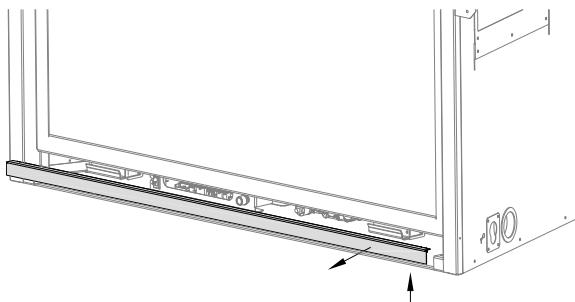

Figure 9.2 - Bottom Frame Removal
2. Pull the bottom frame piece up and out to gain access below the fireplace. See Figure 9.2.